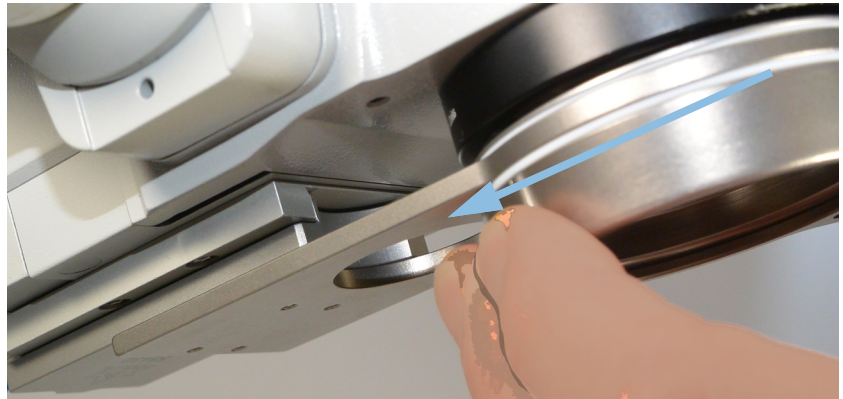

Fig. 9-11: Pull off the adaptor plate
- ➔ Pull the adaptor plate out of the dovetail mount, fig. 9-11, page 28.